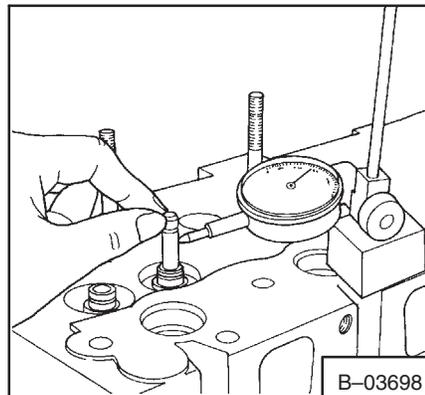

Fig. 7C-36 Checking Valve Guide
16. The measurement must be 0.0016–0.0023 inch (0,040–0,058 mm). To remove and replace the valve guide, make the driver tool as shown in (Fig. 7C-36a).